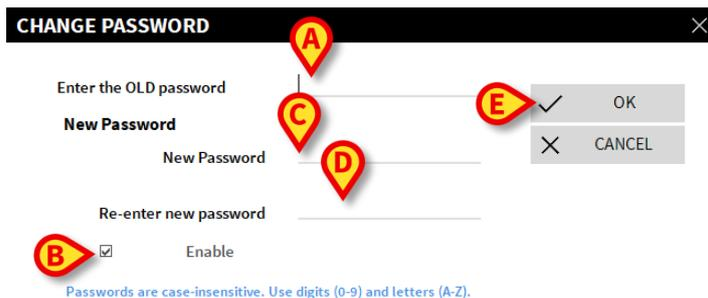

Fig 37
- Type the current password in the “**Enter the OLD password**” field (Fig 37 **A**)
- Verify that the “**Enable password**” checkbox (Fig 37 **B**) is selected
- Type the new password in the field indicated in Fig 37 **C**
- Type again the new password in the field “**Re-enter new password**” (Fig 37 **D**)
- Click the **Ok** button (Fig 37 **E**)